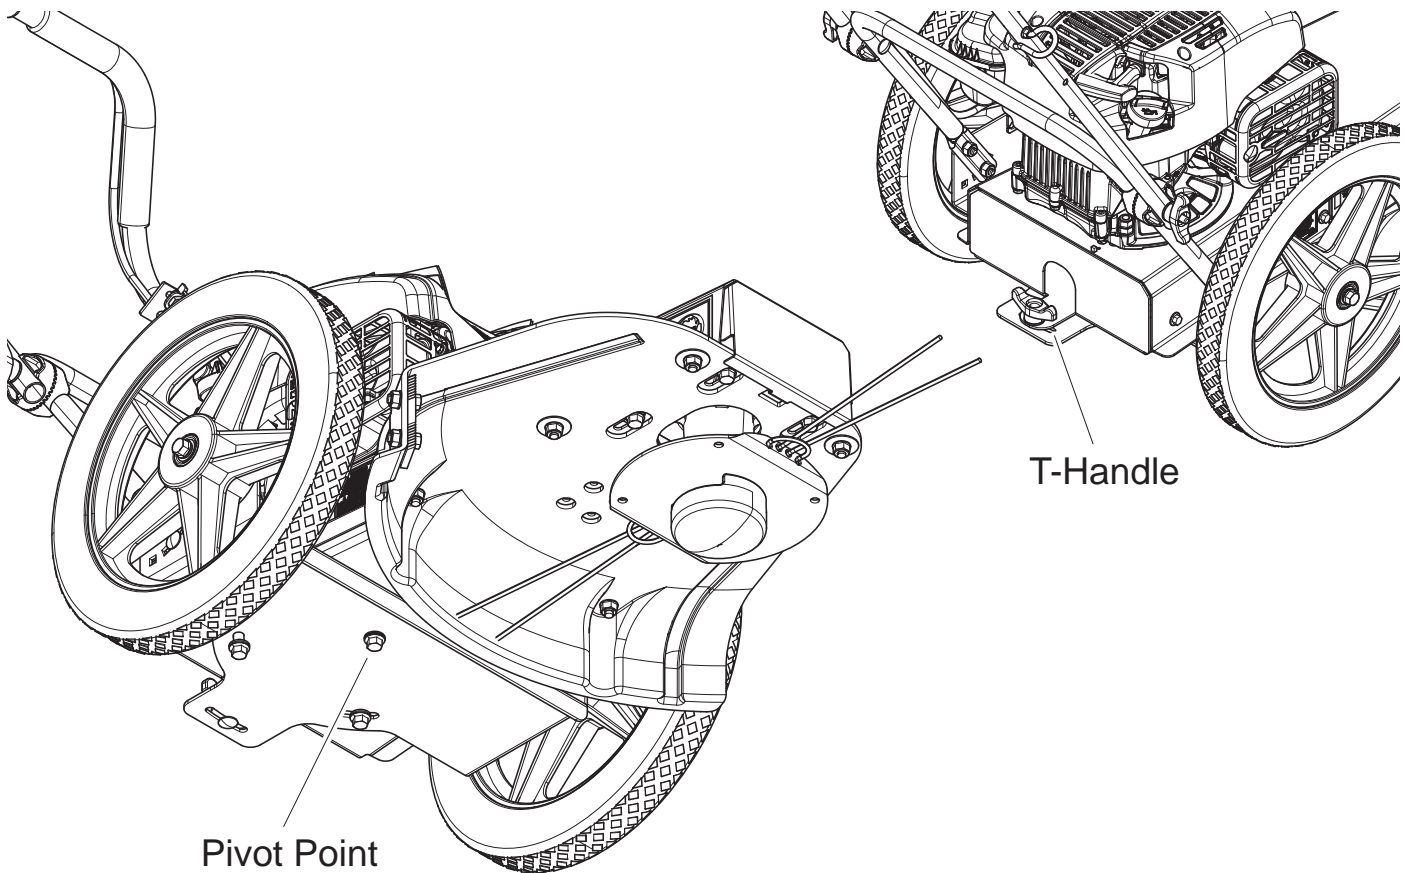

Figure 4.1, Adjusting the Trimmer
1. Loosen the T-handle located on the back of the trimmer, below the engine (Figure 4.1).